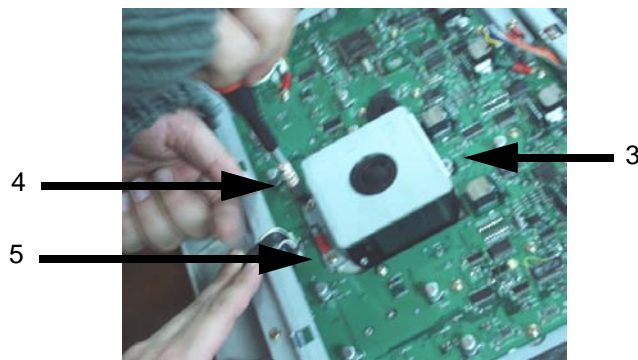

Figure 8-35 Unscrew 3 screws
- 2.) Unscrew three screws (3-5) to remove the Trackball Assy. Refer to Figure 8-35.